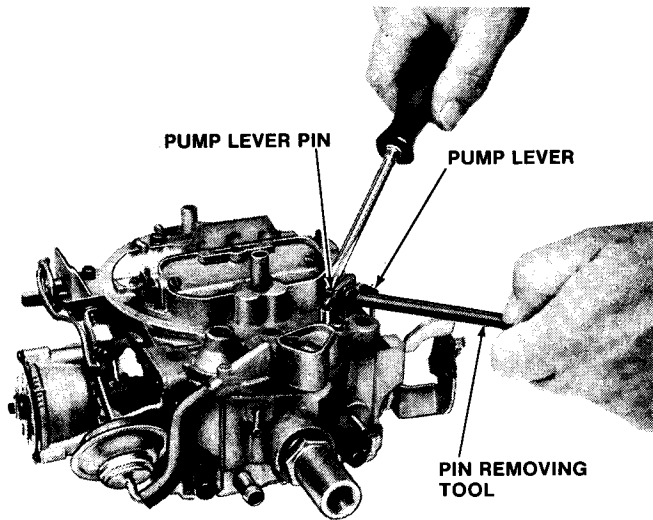

Figure 13—Removing Pump Lever
4. With small drift, drive roll pin (pump lever pivot pin) inward just enough until pump lever can be removed from air horn. Then remove pump lever from pump rod (figure 13). Note location of rod if in inner or outer hole in pump lever.